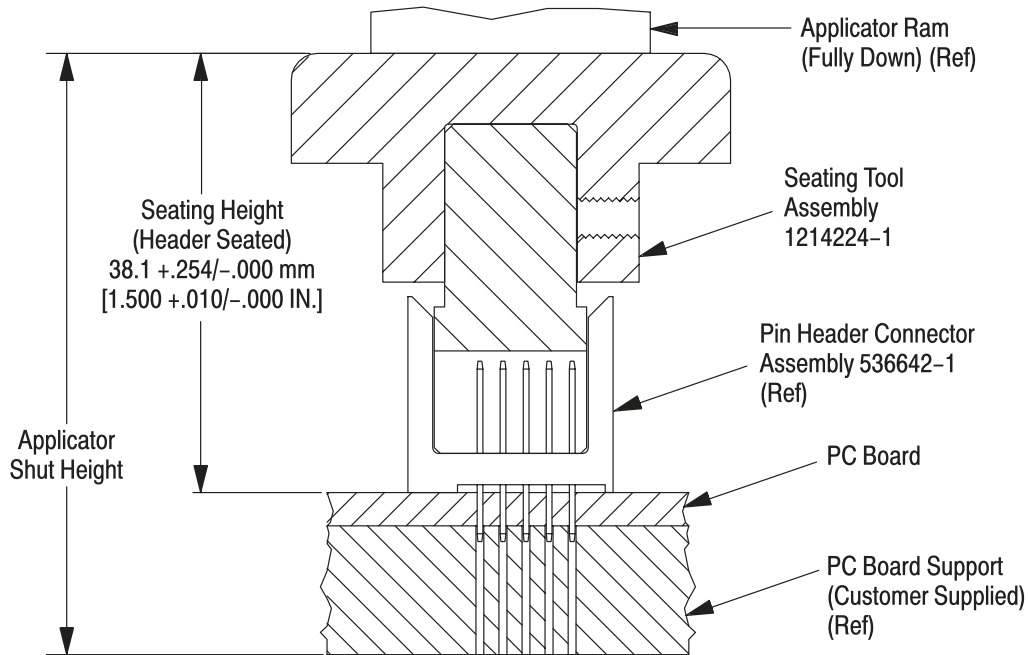

Figure 3
1. Set seating height to the dimension shown in Figure 3. (Applicator shut height will equal the